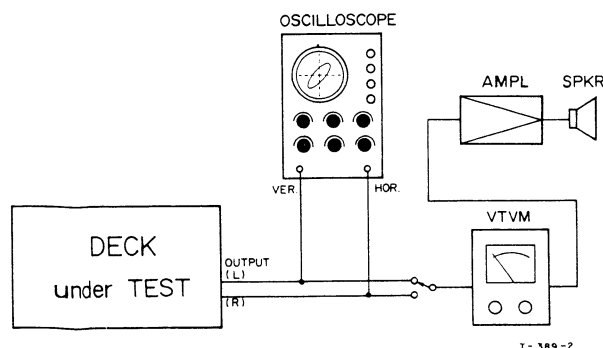

Fig. 7-6 Head Alignment Fine Adj. Set-up and Connections (PLAYBACK)
1. Connect the Test equipment as shown in Fig. 7-6.